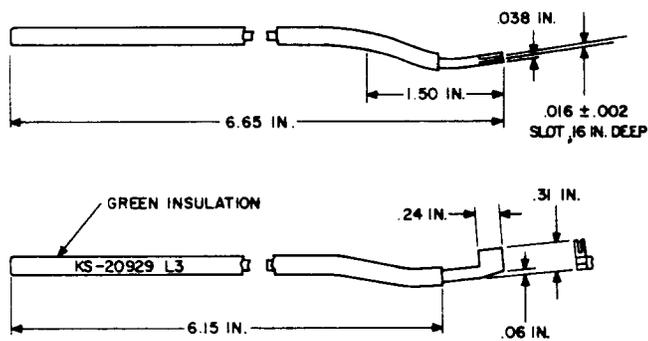

Fig. 15—KS-20929, L3, Adjuster Tool
2.17 KS-20929, L3: The KS-20929, L3, adjuster tool (Fig. 15) is used for adjusting the upper and lower springs on the 221 FAE relays. It replaces the 764A and 765A tools.